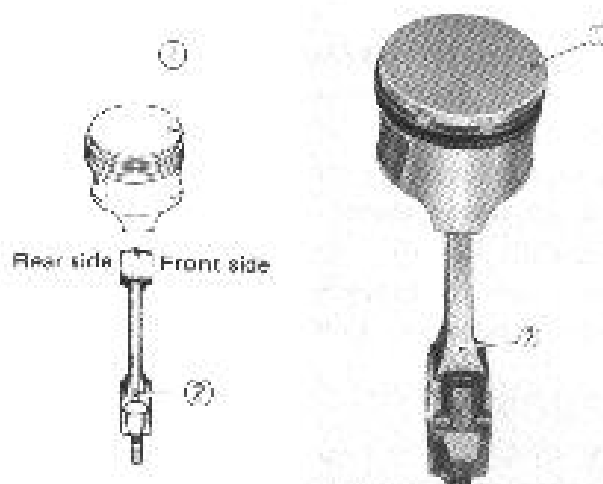

Fig. 3-107
POSITION OF PISTON RELATIVE TO CONNECTING ROD: The arrow ① on the crown points to front (pulley) side, and the oil hole ② comes on inlet port side. See Fig. 3-107.